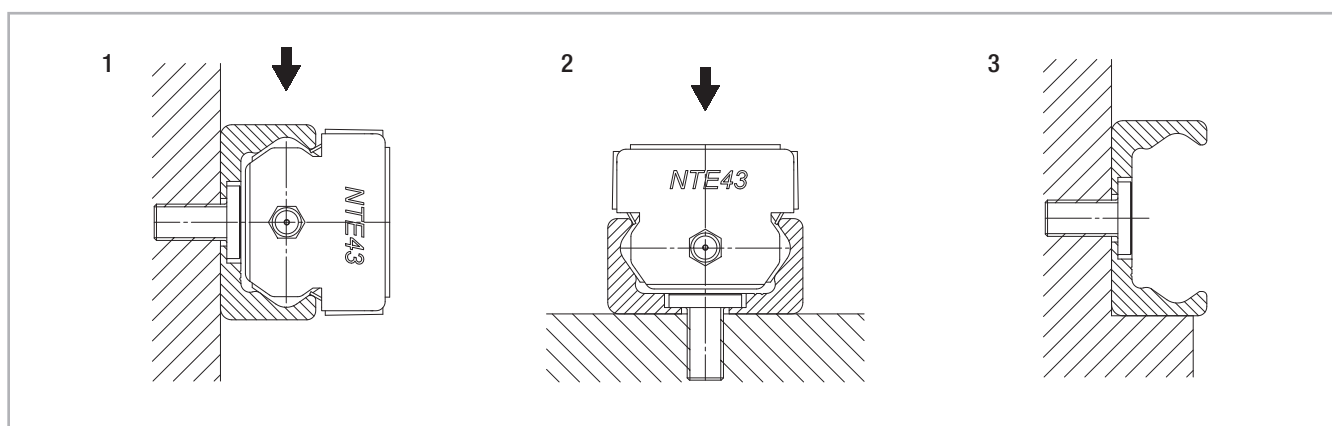

Fig. 99
The T- and K-rails can be installed in two positions relative to the external force. For axial loading of the slider (fig. 99, pos. 2), the load capacity is reduced because of the decline in contact area caused by the change in position. Therefore, the rails should be installed in such a way that the load on the rollers acts in the radial direction (fig. 99, pos. 1). The number of fixing holes in the rail in combination with screws of property class 10.9 is dimensioned in accordance with the load capacity values. For critical applications with vibrations or higher demand for rigidity, a support of the rail (fig. 99, pos. 3) is advantageous.